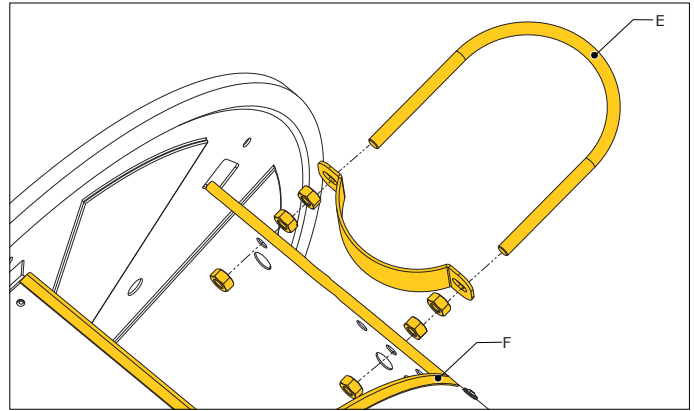

Fig. 4.3 Straining the hose
- Bend hose into a natural soft curve and fasten it using clamp (E) (fig. 4.3).
- Mount the edge protection (F) at the opening of the drum where the hose protrudes (fig. 4.3).